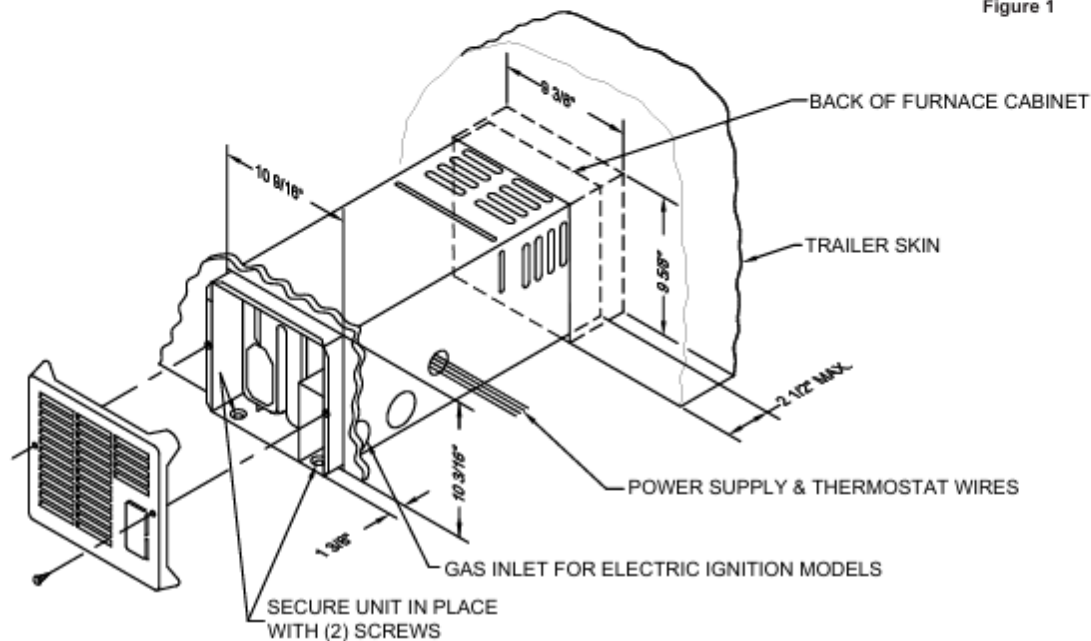

FIGURE 3
4. AFTER SCREWS ARE REMOVED PUSH THE FURNACE BACK INTO THE OPENING UNTIL THERE IS 1 3/8" CLEARANCE FROM THE FACE OF THE CABINET (SEE FIGURE 3 FOR INSTALL INSTRUCTIONS)
7. ON THE EXTERIOR OF THE UNIT REPLACE THE INTAKE TUBE WITH PROVIDED 5" INTAKE TUBE (SEE FIGURE 3 FOR PROPER OVERLAPS)